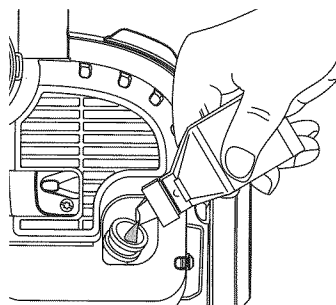

Fig. 9
4. Pour the entire bottle of oil into the oil fill hole (Fig. 9).